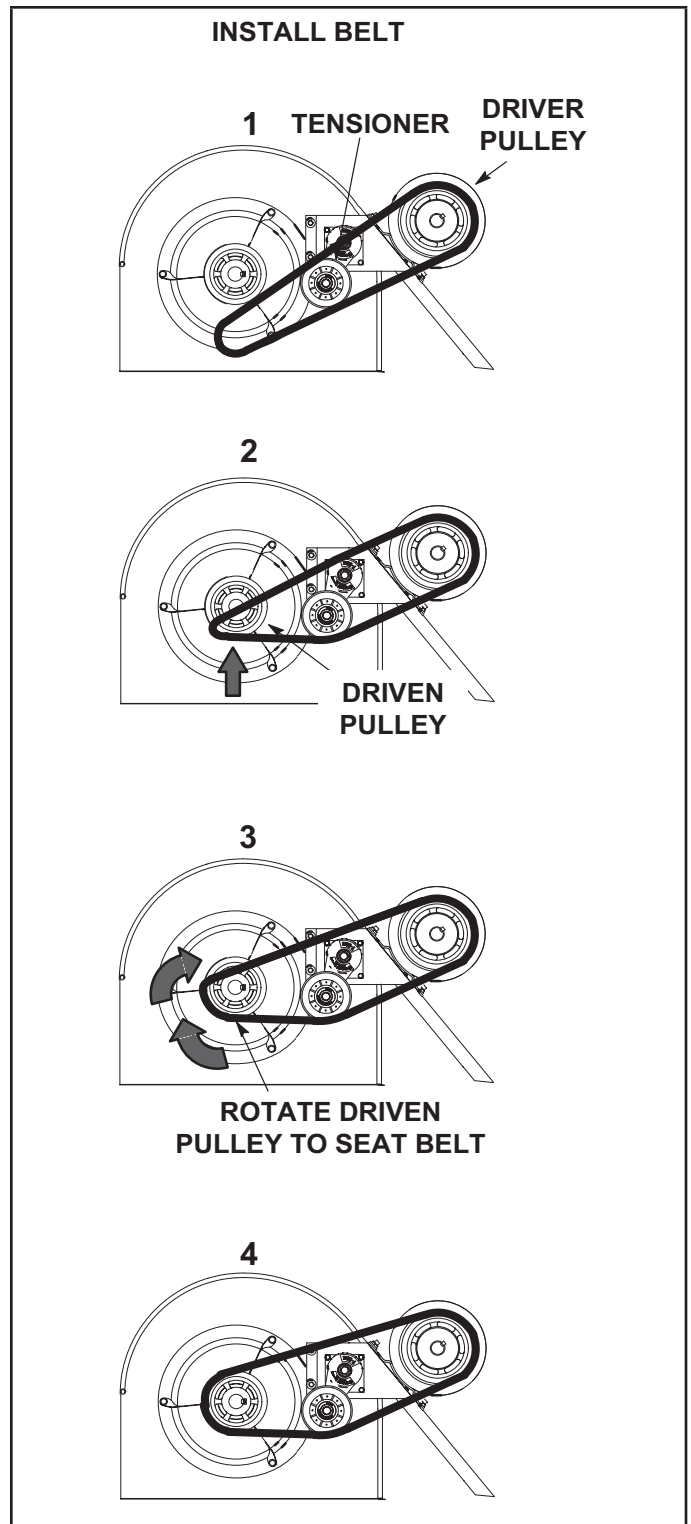

FIGURE 14
- 6 - Replace blower belt. See FIGURE 14.